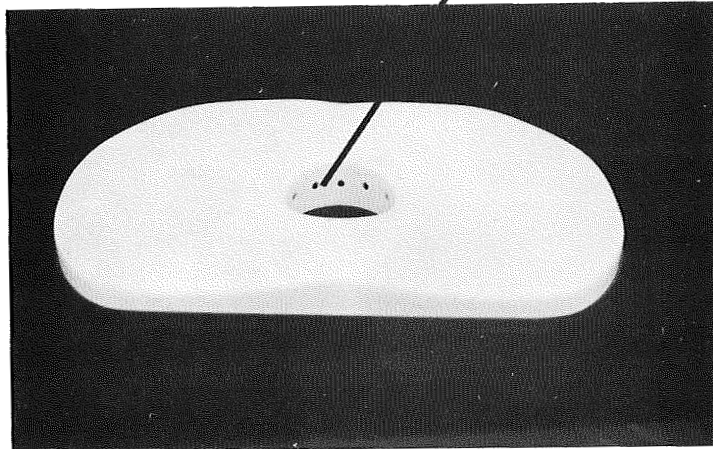

FIGURE 10. SEAT
This subsystem circulates cabin air by means of a blower through openings under the seat (Figure 10) past the user's anal area, into the transport tube and phase separator through the blower and discharges it back to cabin atmosphere downstream of the blower after passing it through a bacterial filter-charcoal bed combination as shown in Figure 5. The blower starts when the lid on the unit is raised and before the user is seated. In a zero gravity environment the air would serve the purpose of transporting feces away from the user and into the blender blades located at the bottom of the transport tube. In addition, it serves the purpose of drying the user after a flush/wash cycle has been completed. Raising the lid also shuts off a germicidal lamp which radiates to the seat when the unit is not in use and the lid is down. In the unlikely event that the lid switch S2 fails closed, the lamp will stay on when the lid is raised. DO NOT LOOK DIRECTLY AT THIS LAMP WHILE IT IS ENERGIZED SINCE ITS RADIATION CAN CAUSE PERMANENT EYE DAMAGE.
4.2 Seat (See Figure 10)